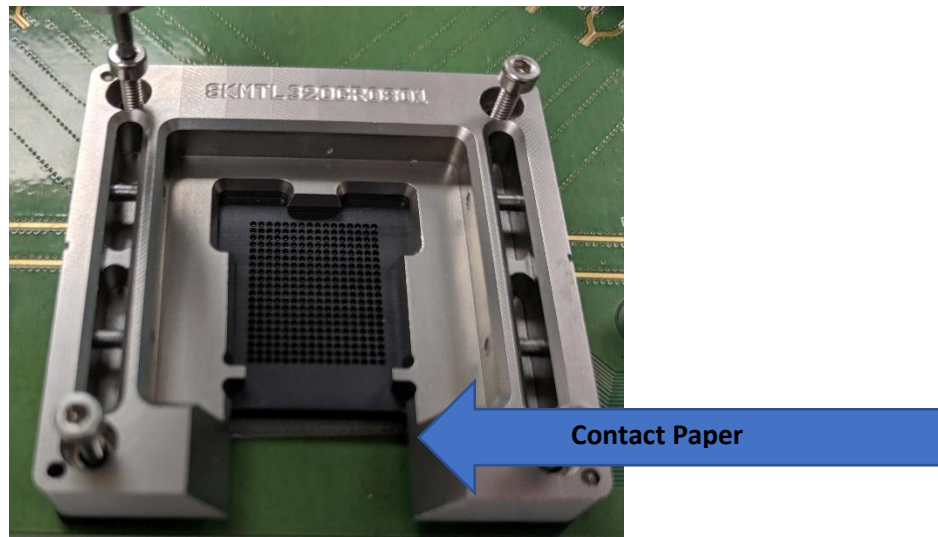

Figure 3: Socket Reassembly with Contact Paper between the Socket and Test Board
- **Reassemble the Socket** – Build the socket as normal with the contact paper in the test area. (See Figure 3)